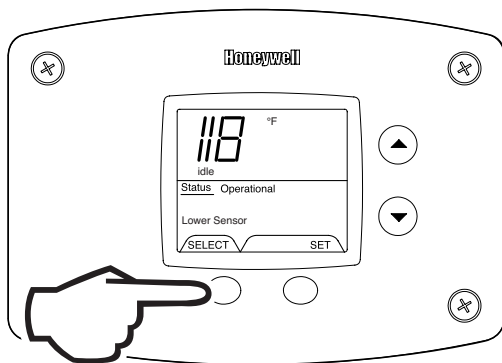

Fig. 58
3. For water heaters using two temperature sensors, pressing the 'Select' button again displays the Lower Sensor temperature reading. 'Lower Sensor' will be displayed in the lower left side of the status window of the water heater display (Fig. 58).